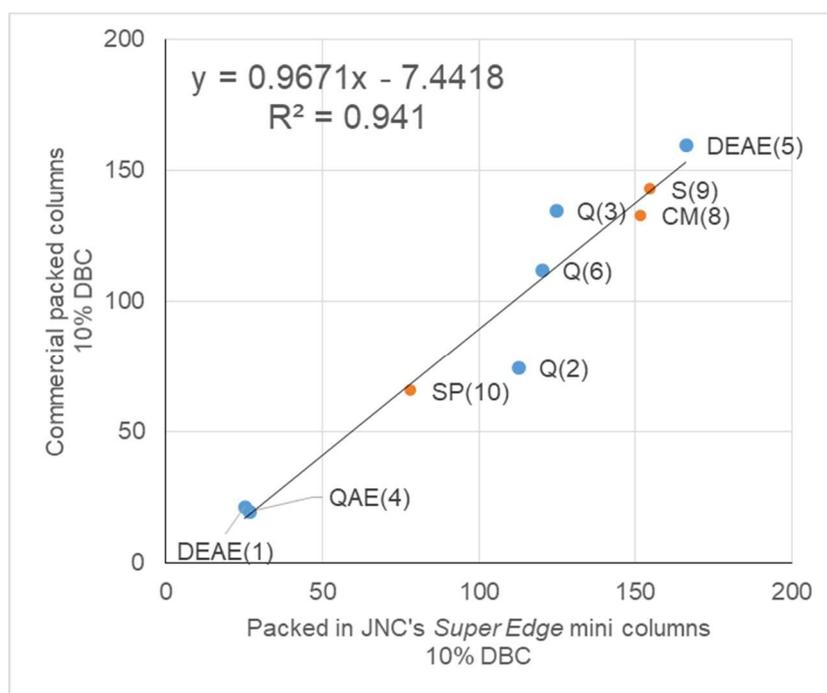

Fig1. Regression analysis of 10% DBC (mg / ml) of *Super Edge* mini column and commercial column
Comparative data are shown in Table 5 and Fig 1. Q (2) and Q (3) seem to be different in DBC, but the result of regression analysis showed that the intercept was about 1 and the correlation coefficient was close to 1, indicating compatibility.